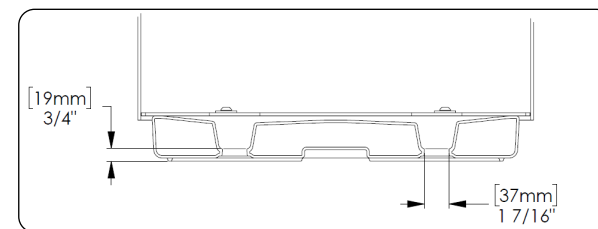

Fig. 2 – Base section detail
4. Set unit in place and install anchor bolts (not supplied by Landscape Forms) according to anchor manufacturer's instructions. Anchor bolts should be long enough to account for base thickness, see Fig. 2.